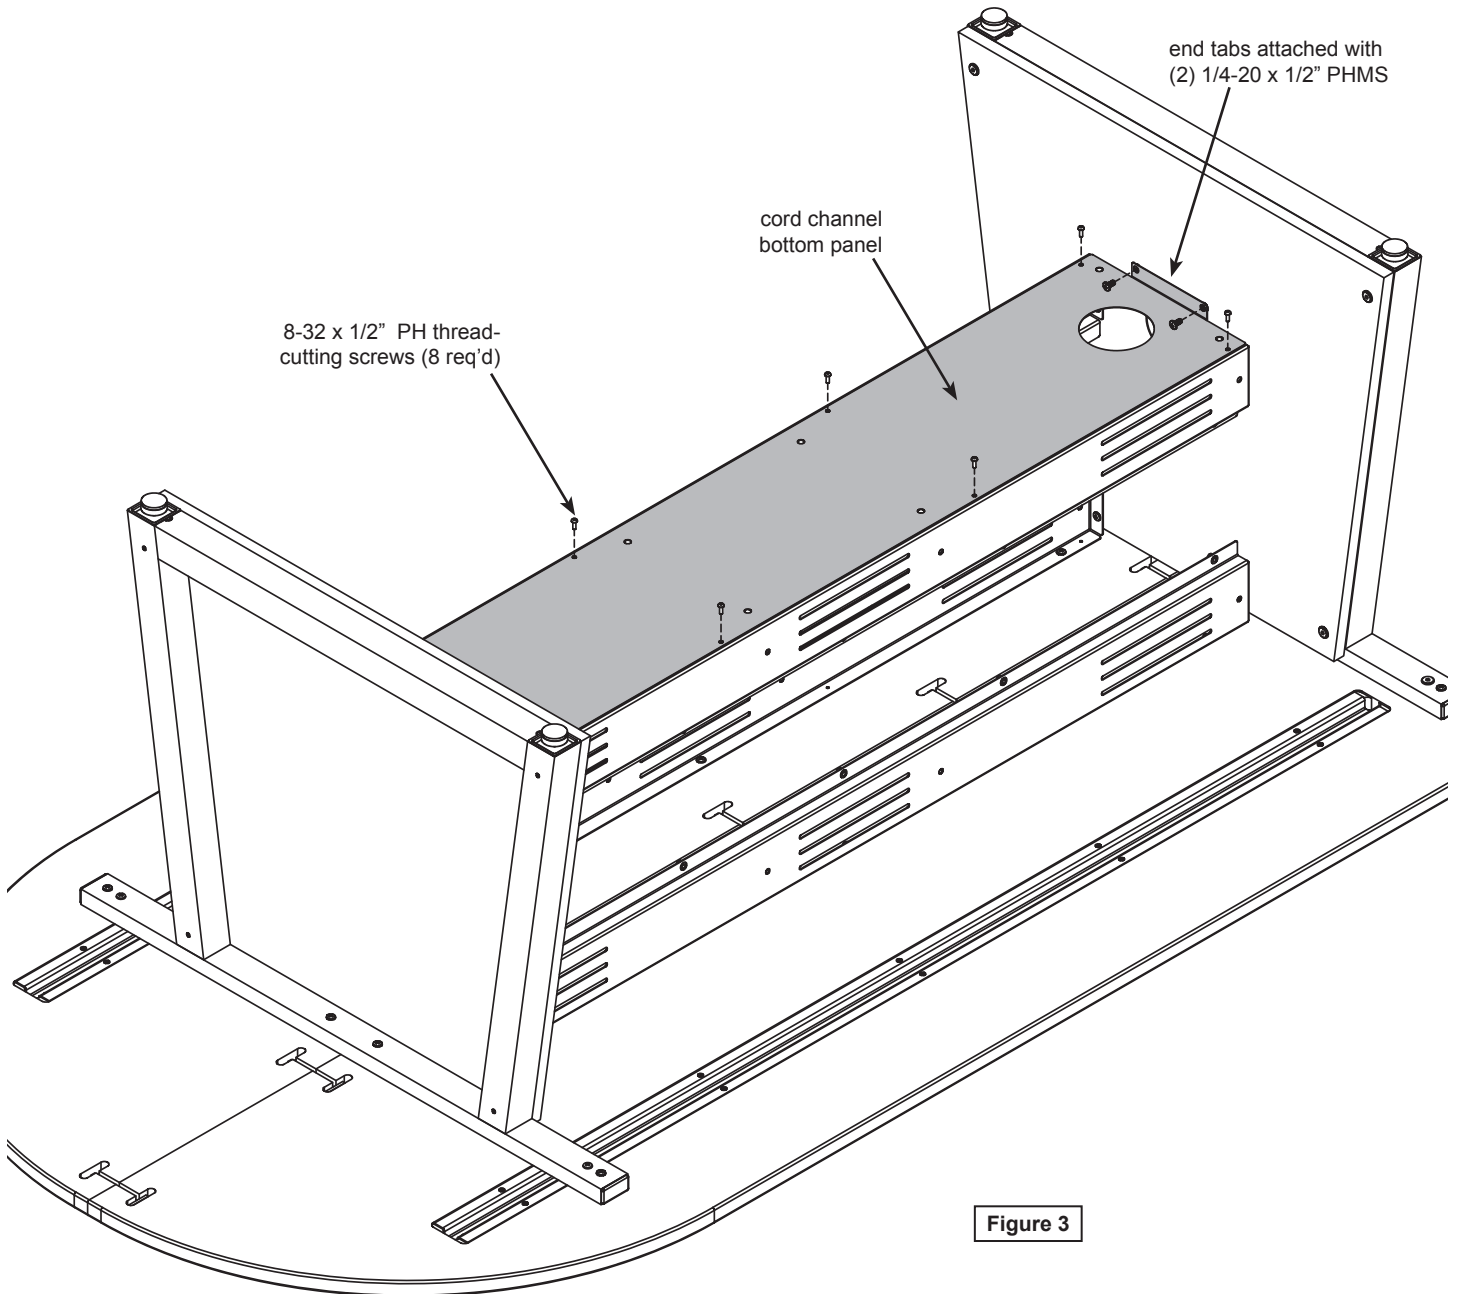

Figure 3
- A. Attach the bottom panel to the two lower rails with (8) 8-32 x 1/2" PH thread-cutting screws as shown. **Figure 3.**